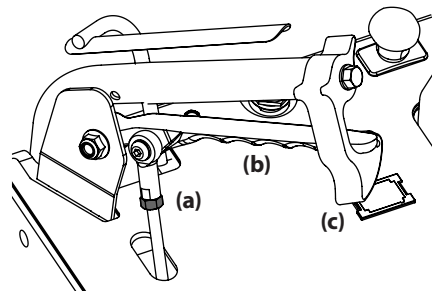

Figure 29
- Loosen the jam nut (a) and adjust the rod until the steering lever (b) is seated in the neutral lock lever (c). See Figure 29.